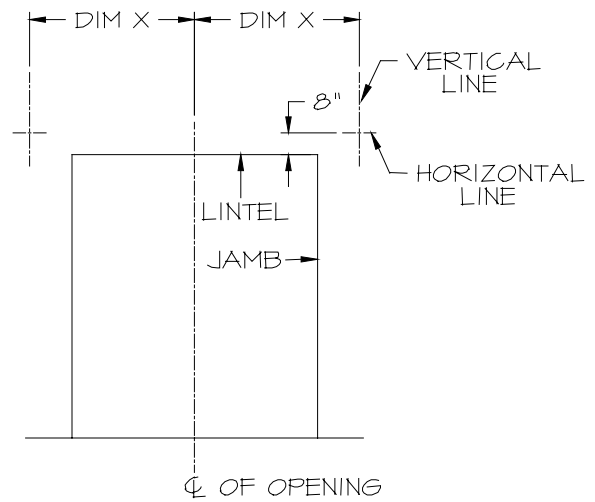

FIG. 6
- * From the center line above lintel, **measure** over to right door jamb using Dimension X (Figure 6).
- * From corner of jamb, **measure** 8" up above lintel (Figure 6).